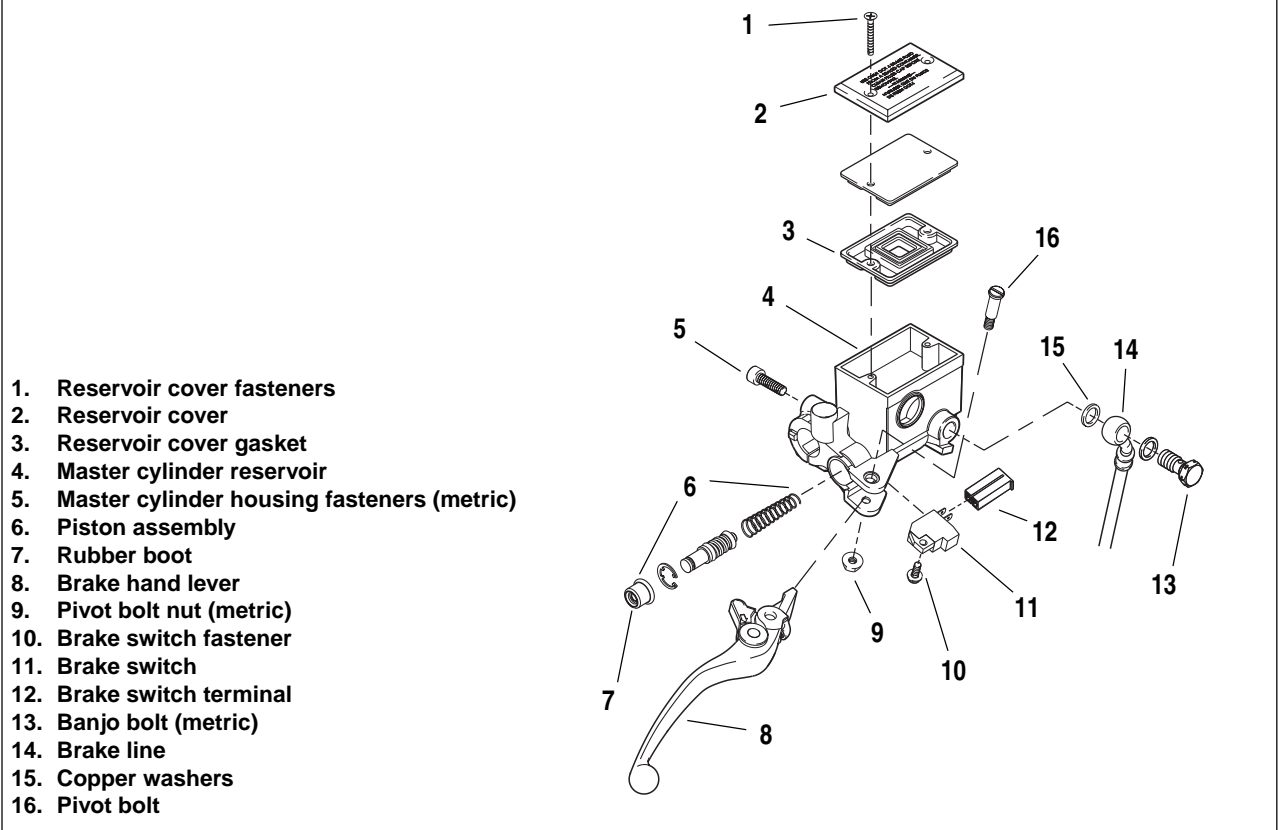
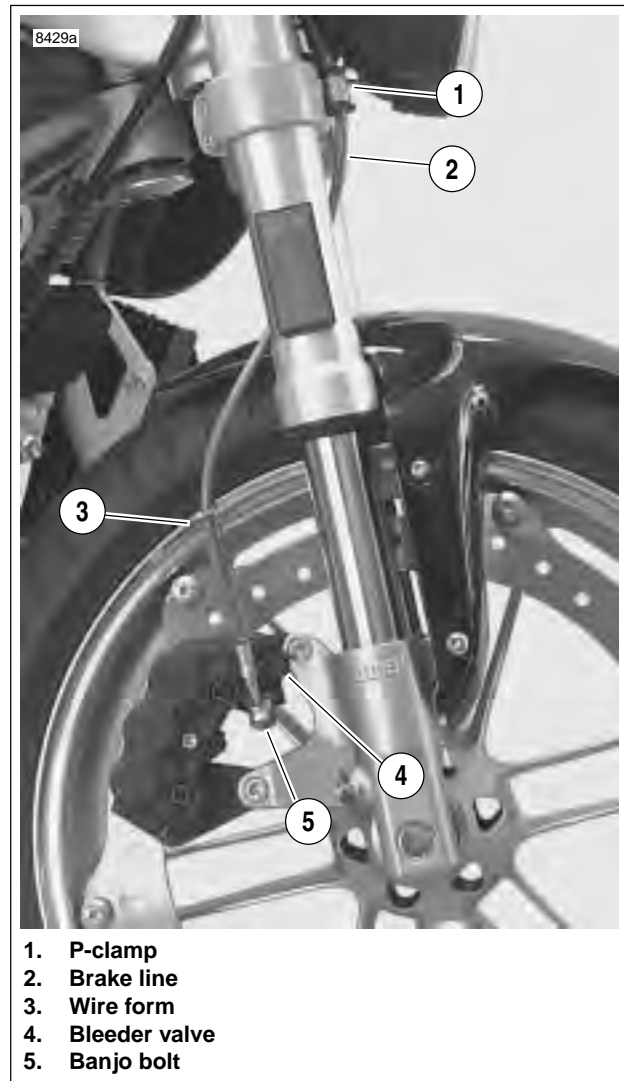

Figure 2-37. Front Brake Hand Lever Assembly
Figure 2-43. Front Brake Line
2. See Figure 2-37. Remove the banjo bolt (13) (metric) and two copper washers (15) to disconnect brake line (14) from master cylinder (4). Discard copper washers.
3. Unplug terminal (12) to detach brake lamp switch (11).
1. See Figure 2-37. Remove pivot bolt nut (9) (metric) and pivot bolt (16) from hand lever pivot.
2. Detach front brake hand lever assembly (8) from hand lever pivot.
3. Detach front brake lamp switch (11) by removing the switch fastener (10).
1. See Figure 2-37. Remove master cylinder cover (2) by removing cylinder cover fasteners (1).
3. Remove rubber boot (7) and discard.
5. See Figure 2-37. Remove piston assembly (6) from front master cylinder reservoir (4) and discard.
4. See Figure 2-37. Insert piston assembly (6), spring first, into master cylinder reservoir (4).
1. See Figure 2-37. Lubricate pivot bolt (16) with LOCTITE ANTI-SEIZE.
2. Align hole in hand lever (8) with hole in hand lever pivot and install pivot bolt (16) through top of hand lever pivot and tighten nut to 80-120 **in-lbs** (9-14 Nm).
1. See Figure 2-37. Install front brake lamp switch (11).
- a. Install brake lamp switch (11) with switch fastener (10) and tighten to 7-10 **in-lbs** (0.8-1.0 Nm).
- b. Connect brake switch terminal (12) to brake lamp switch (11).
3. See Figure 2-37. Connect brake line to master cylinder using two **new** copper washers (15) and banjo bolt (13) (metric) and tighten to 16-20 ft-lbs (22-27 Nm).
5. See Figure 2-37. Remove two master cylinder cover screws (1), cover (2) and cover gasket (3).
10. See Figure 2-37. Attach master cylinder cover (2) and cover gasket (3). Tighten two cover fasteners (1) to 9-13 **in-lbs** (1.0-1.5 Nm).
4. See Figure 2-37. Remove master cylinder banjo bolt (13) (metric) and two copper washers (15) to disconnect brake line from master cylinder (4). Discard copper washers.
1. See Figure 2-37. Connect brake line (14) to master cylinder (4) using two **new** copper washers (15) and a banjo bolt (13) (metric). Loosely install bolt into master cylinder.
- a. See Figure 2-43. Install **new** copper washer, brake line (2), **new** copper washer and wire form (3) onto banjo bolt (5).
- b. Finger tighten banjo bolt (5) onto front caliper being careful not to pinch wire form (3) while tightening, wire form should rotate around banjo bolt freely.
- c. Twist brake line (2) into wire form (3) spiral and clock wire form against bleeder valve (4).
5. Install and tighten p-clamp with fastener (1) on lower triple clamp to 36-60 **in-lbs** (4-7 Nm).
6. See Figure 2-37. Tighten master cylinder banjo bolt (13) (metric) to 16-20 ft-lbs (22-27 Nm).
7. See Figure 2-43. Tighten brake caliper banjo bolt (5) (metric) to 16-20 ft-lbs (22-27 Nm).